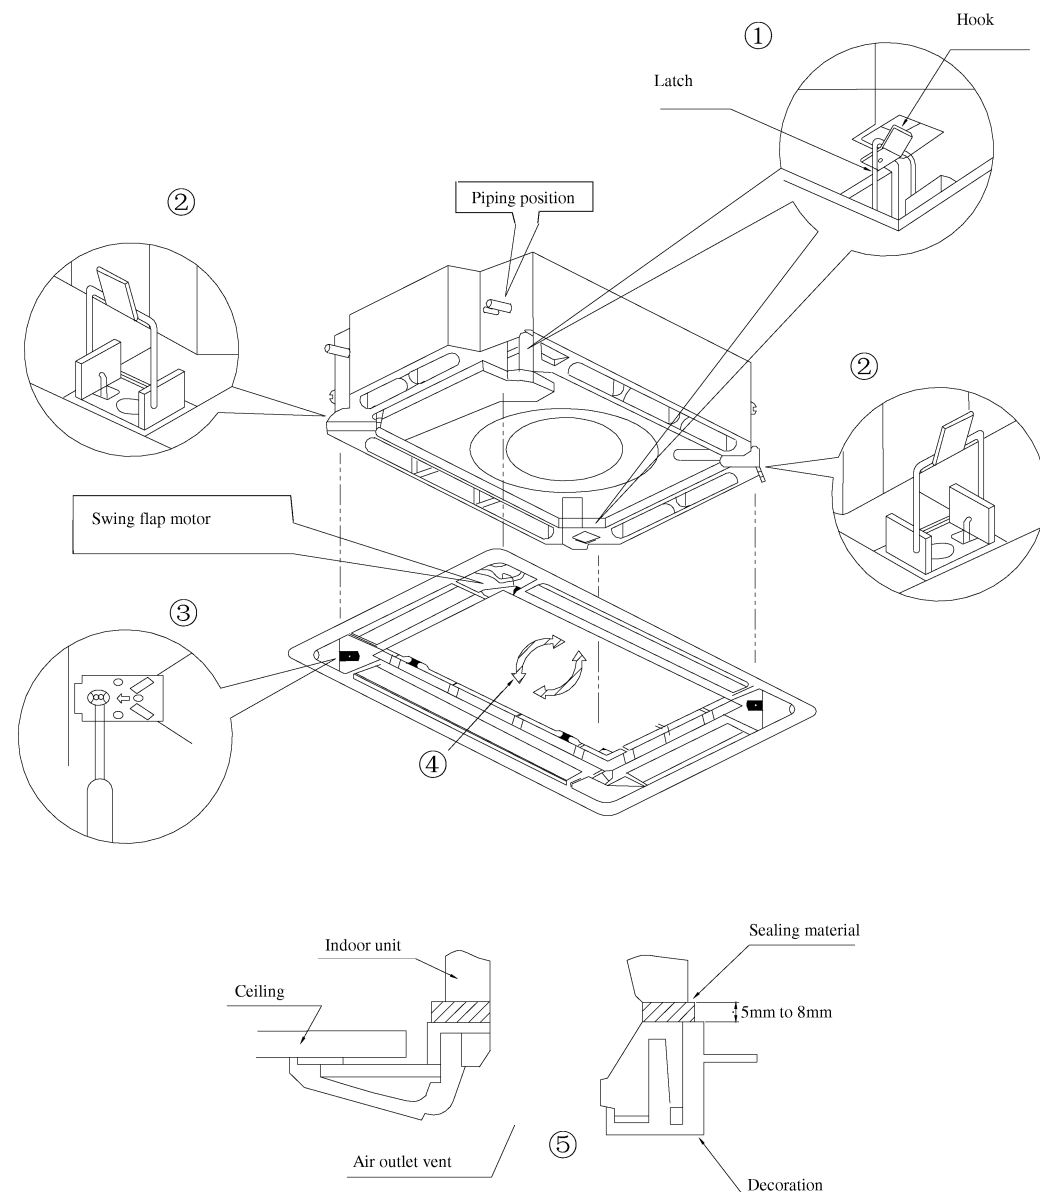

Fig 9
1. Set the panel to the indoor unit body by matching the position of the swing flap motor of the panel to the piping position of the panel to the piping position of the indoor unit as shown by fig.9.
① Install the panel on the indoor unit temporarily. When install, hang the latch on the hook that is located on the oppsite side of the swing flap on the panel of the indoor unit. (2 positions)
② Hang the remaining 2 latches to the hooks on the sides of the indoor unit.(Be careful not to let the swing motor lead wire get caught in the sealing material.)
③ Screw the 4 hexagon head screws under the latches in about 15mm. (The panel would raise)